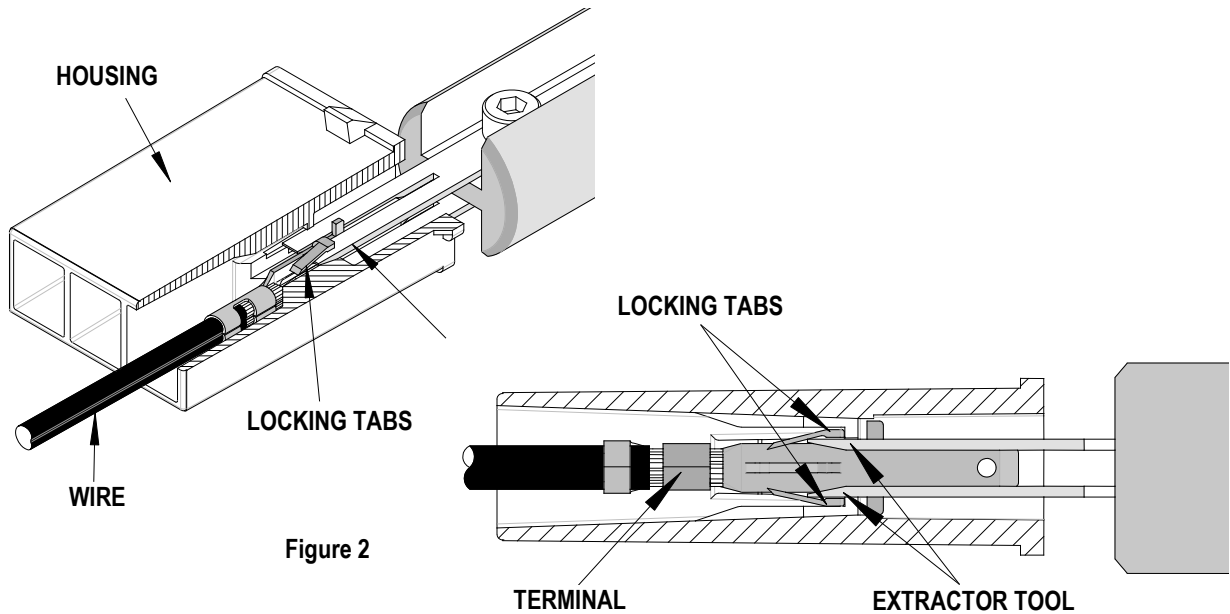

Figure 2
4. Continue to insert the tool until the tool stops in the housing. Gently pull the wire and terminal out of the housing. See Figure 2.